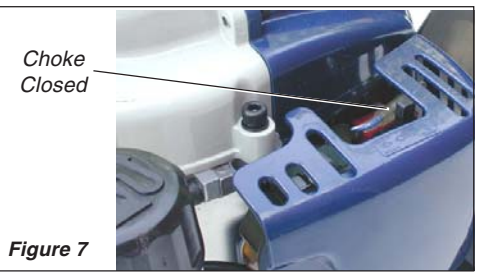

Figure 7 Choke Closed
4. (Cold engine only) Choke the engine by moving the choke lever forward to the "closed" position. See Figure 7.